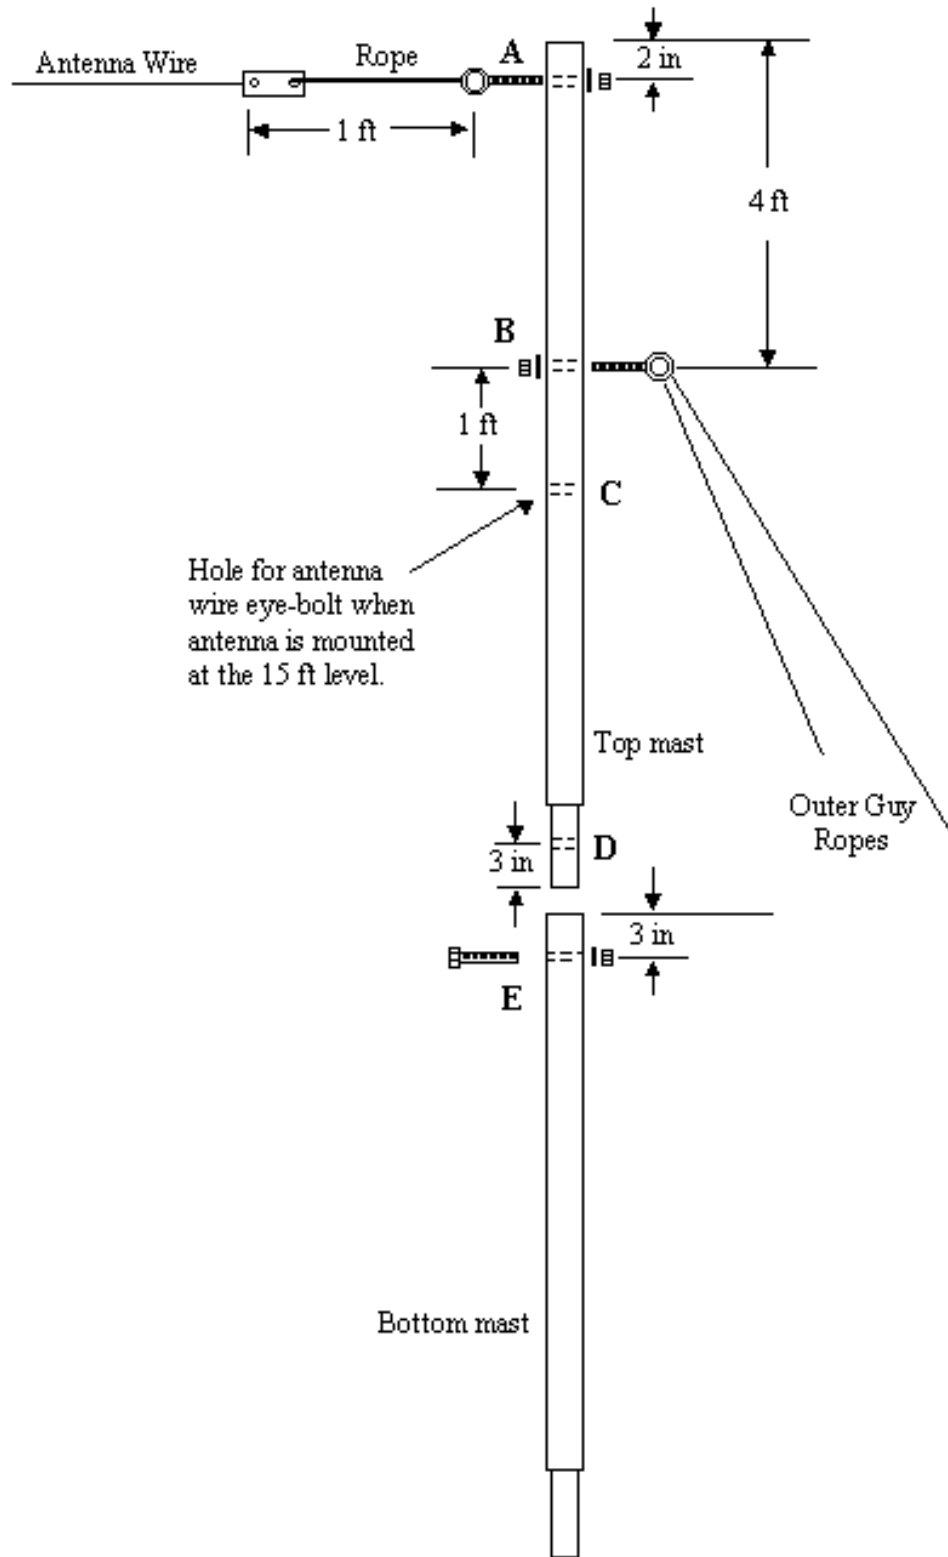

Figure 4.4. Metal Mast Assembly.
Metal Mast Assembly (Refer to Figures 4.4 and 4.5)
2. **Refer to Figure 4.4. All holes through the masts are 1/4 inch diameter.** A hammer and punch (or nail) can be used to make a starting point for drilling. A pilot hole using a 1/8 in drill bit is recommended. Eyebolts and bolts should be secured using a flat washer, lock washer and a nut. All holes in the top mast should be in the same plane.
4. Drill hole (E) thru the bottom mast.
5. Insert the top mast section 6 inches into the bottom mast section. Using hole (E) as a guide, match-drill a hole though the top mast section – this becomes hole (D). The best way to match-drill the holes is to drill the inner mast from each side – using hole E as a guide. Then without moving the two masts relative to each other, run the drill all the way thru both masts
6. Secure eyebolt in hole (B).
- 9a. For a 20-foot high antenna attach the antenna eyebolt at hole (A).
- 9b. For a 15-foot high antenna attach the antenna eyebolt at hole (C).
- B. *For the metal mast installation refer to Figures 4.4 and 4.5. Cut 8 ropes to 21 feet. Attach 2 ropes to each of the eyebolts at the 16 ft level (hole B).*